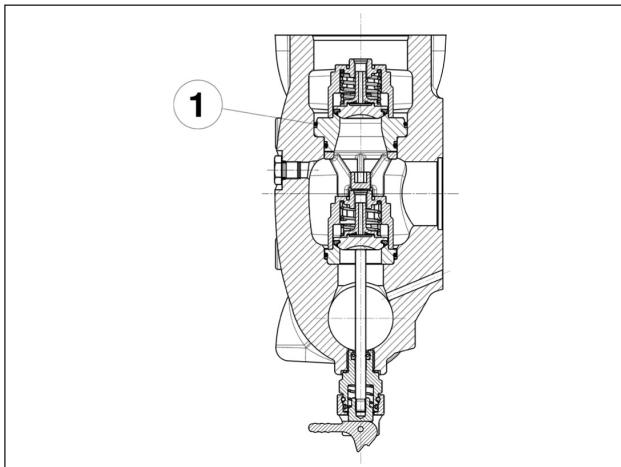

Fig. 128
**Pay special attention to O-ring insertion indicated in pos. ①, Fig. 128.